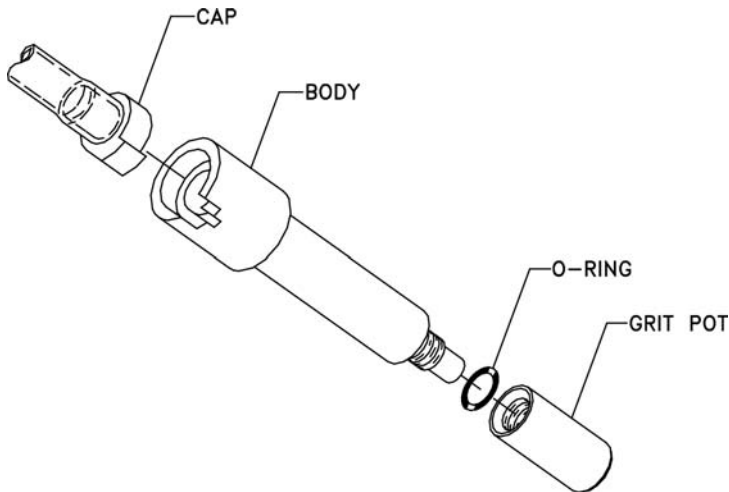

Figure 4–5: Exploded View of 10 mm Nylon Dorr-Oliver Cyclone
4. Re-assemble the cyclone. Refer to Figure 4–5 below. The cyclone cleaning procedure is now completed.